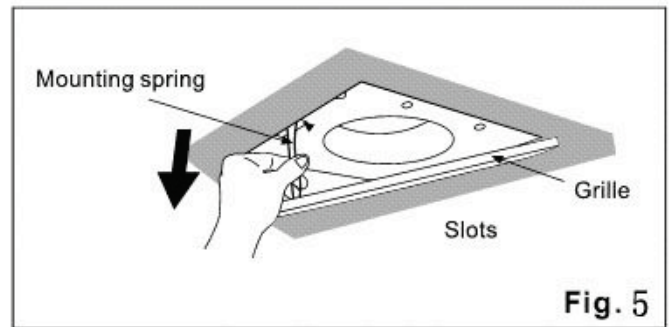

Fig. 5
6. Insert mounting springs into slots as shown and mount grille to fan body. (Fig.5)